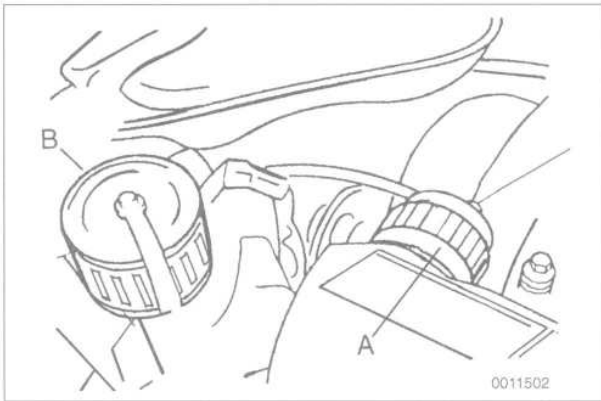

Fig. 31. Main engine wiring harness connector (A) and diagnostic connector (B) at rear of engine compartment.
13. Separate main wiring harness plug. Unclip diagnostic connector from bracket. See Fig. 31.